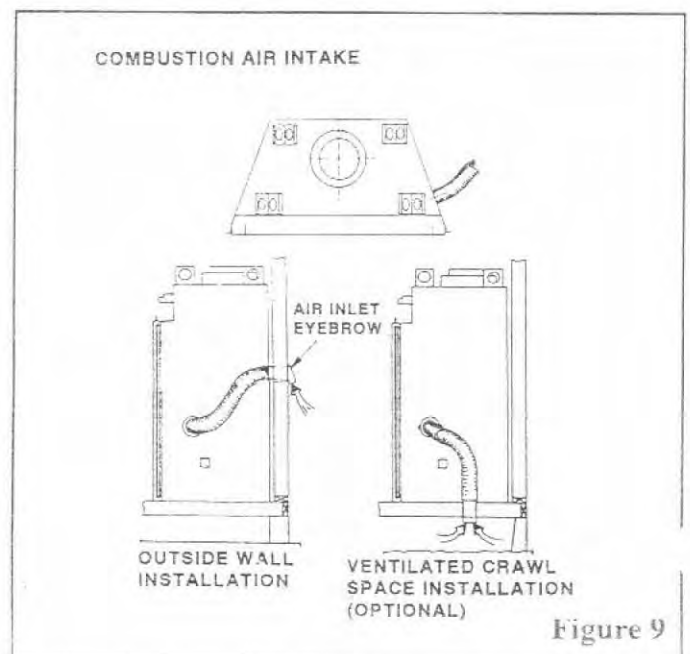

Figure 9
STEP 1: Determine the source for outside air, which can be installed through an outside wall or into a ventilated crawl space (Figure 9). In either case, a 4-1/2 inch diameter hole will be required for installation of the air inlet assembly. **CAUTION:** Avoid installing the air inlet where the opening could be blocked by snow, bushes or other obstacles. The maximum height for the outside air is 50 feet above the hearth, providing the air inlet is terminated a minimum of three (3) feet below the chimney cap level.